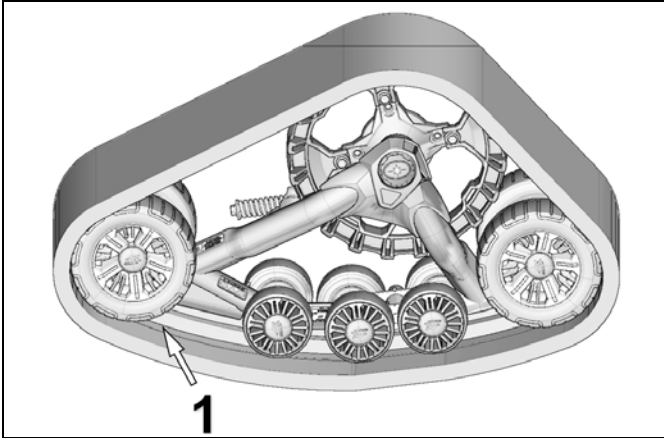

Figure 28
- Re-install the 241 mm wheels. See Figure 28.